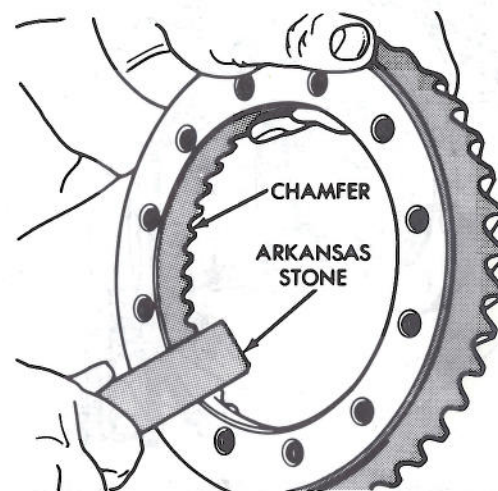

Fig. 18—Stoning Chamfer of Ring Gear
(1) Install thrust washers on differential side gears and position gears in counterbores of differential. If assembling with new differential gears or thrust washers refer to "Differential Side Gear Clearance and Adjustment".
(2) Position thrust washers on both differential pinion gears and mesh the pinion gears with the side gears, having pinion gears exactly 180 degrees apart.
(3) Rotate side gears to align pinion gears and washers with differential pinion shaft holes in case. Install lock screw and tighten to 90 in. lbs. (10 N·m).
(4) The contact surface of the drive gear and differential case flange must be clean and free of all burrs.
(5) On axles requiring ring gear to be installed on differential case, relieve the sharp edge of the chamfer on the inside diameter of the ring gear using an Arkansas stone (Fig. 18). This is very important, otherwise during the installation of ring gear on differential case, the sharp edge will remove metal from the pilot diameter of case, which can get imbedded between differential case flange and gear, causing ring gear not to seat properly.
(6) Heat the ring gear with a heat lamp or by immersing the gear in a hot fluid (water or oil). The temperature should not exceed 300 degrees